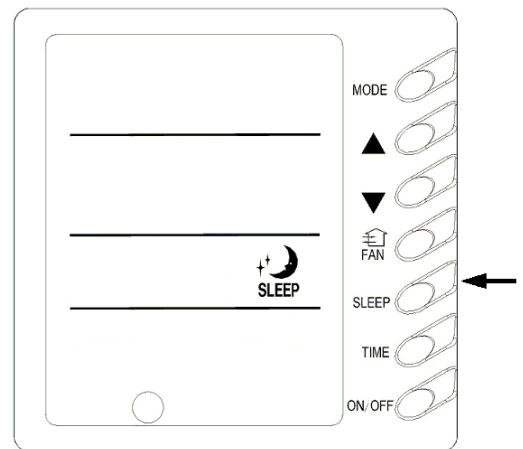

Fig.5
4) Sleep Function Setting(Fig.5)